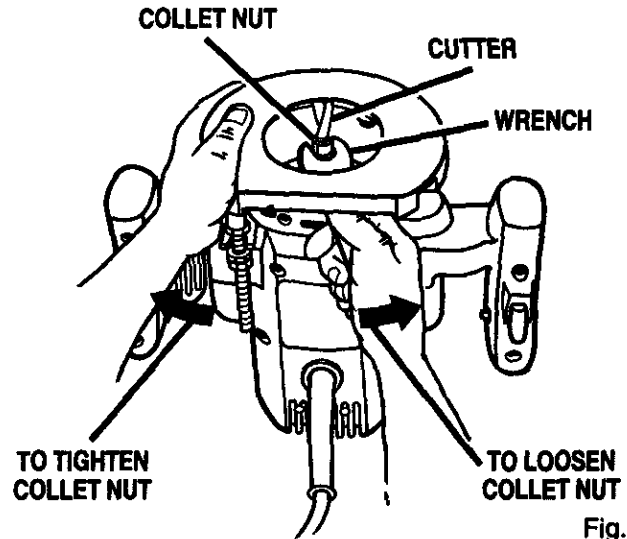

Fig. 4
■ Place the wrench provided through back of router base onto collet nut and turn counterclockwise to loosen. See Figure 4.
■ Tighten the collet nut securely by turning clockwise with the wrench provided. See Figure 4.